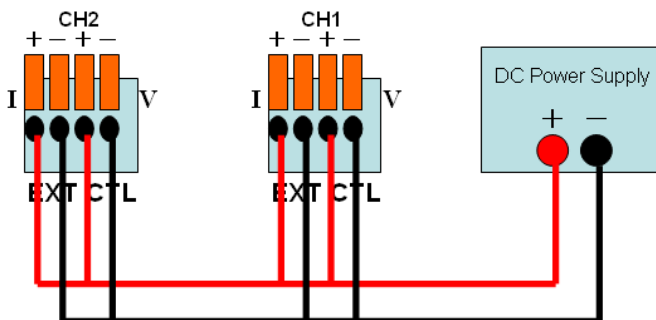

Figure 38- Dual Channel External Analog Voltage Input Calibration Setup
- (Dual channel) For the external voltage calibration, connect the leads like Figure 38 shown below.